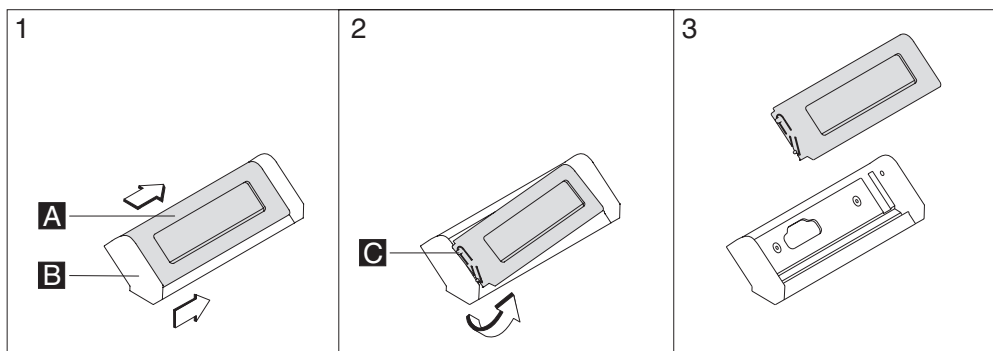

Figure 52. Removing the integrated character display
2. Remove the integrated character display **A** from its holder **B**; note that a cable is attached to the display. Tilt the display to the fully open position and pull the corner out as shown in **C** step 2. You will see knob **C** at the end of the display that is used to secure the display to the holder, as shown in Figure 52.